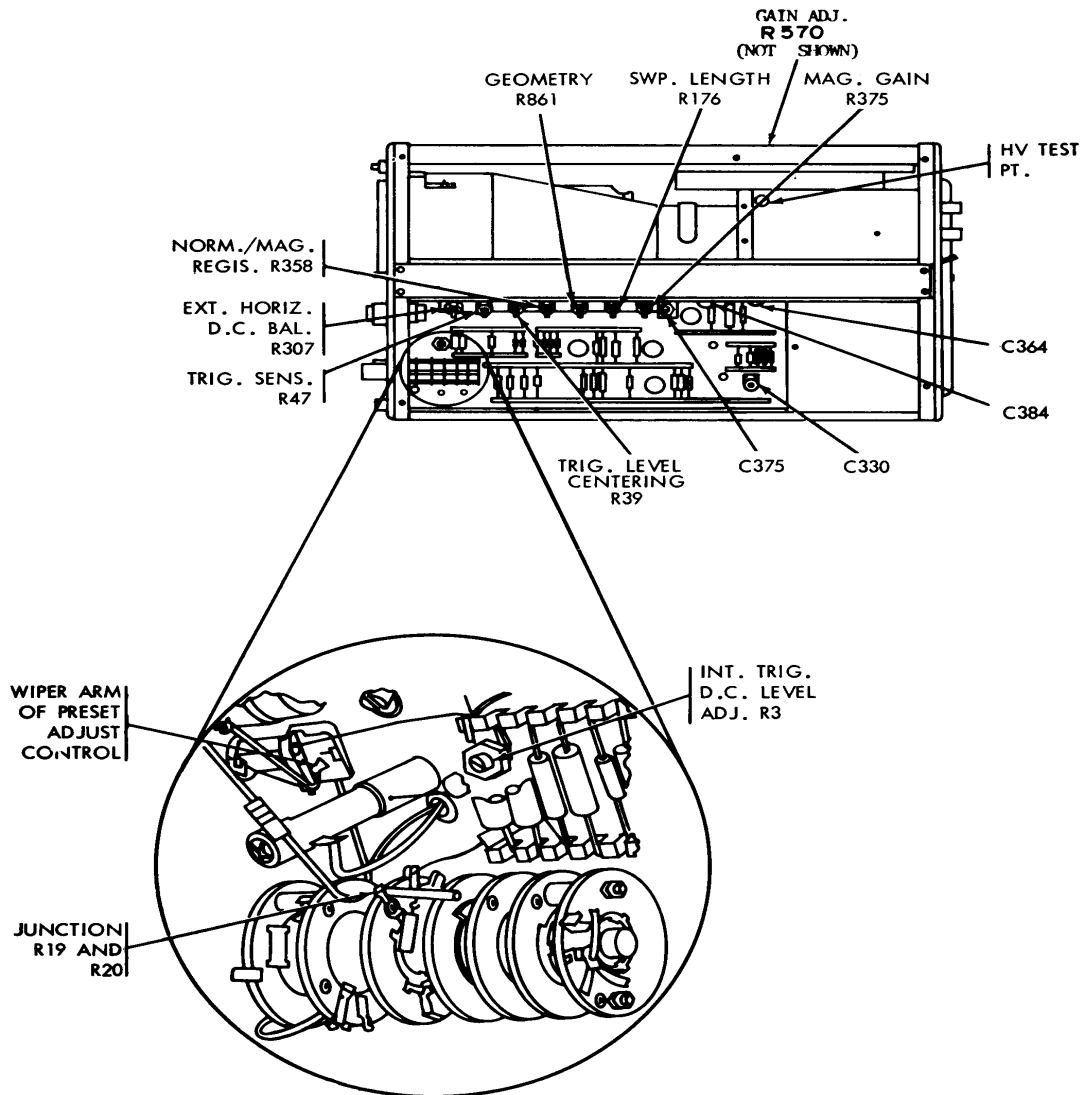

Figure 2. Oscilloscope - top view.
- (1) Connect TI **CAL OUT** to calibration adapter (A4) **EXT INPUT**, using cable (B5) and, if necessary, adapter (B2).
- (2) Set **AMPLITUDE CALIBRATOR** switch to **5 VOLTS**.
- (3) Adjust calibration adapter **VERTICAL POSITION** control until only the rising and falling portion of display are visible on TI crt. If vertical curvature of display is observed, perform **b** below.
b. Adjustments. Adjust **GEOMETRY R861** (fig. 2) for no vertical curvature of crt display.
(1) Adjust output of ac calibrator for 35.35 volts rms.
(2) Adjust **GAIN ADJ R570** (fig. 2, not shown) for 4 major divisions of vertical deflection on TI crt. (R)
- (1) Adjust **SWP LENGTH R176** (fig. 2) until sweep is approximately 10.5 centimeters long. (R)
- (2) Adjust **NORM. MAG. REGIS. R358** (fig. 2) until marker is centered behind center graticule line. (R)
- (2) Position TI controls as listed in (a) through (c) below:
- (3) Adjust calibration adapter **VARIABLE** control for 1 minor division of vertical deflection on TI crt.
(4) Adjust TI **STABILITY** control for stable waveform and center waveform vertically with **VERTICAL POSITION** control. Adjust **INTENSITY**, **FOCUS**, and **ASTIGMATISM** controls for best display.
(5) Connect junction of **R19** and **R20** (fig. 2) to chassis ground, using lead and two adapters (B6 and B1).
(6) While observing waveform, turn **TRIGGER SLOPE** switch from **+INT** to **-INT**. Waveform will invert and remain stable.
(7) If necessary, turn **TRIG. SENS.** control **R47** (fig. 2) fully counterclockwise and **TRIG. LEVEL CENTERING R39** (fig. 2) fully clockwise.
(8) From clockwise position, turn **STABILITY** control counterclockwise until waveform just disappears, then 2 or 3 degrees further.
(9) Turn **TRIG. LEVEL CENTERING R39** counterclockwise until waveform appears. If waveform does not reappear, turn **TRIG. SENS. R47** clockwise a few degrees and repeat the step.
(10) Turn TI **TRIGGER SLOPE** switch from **-INT** to **+INT** and back to **-INT**, while adjusting **TRIG. LEVEL CENTERING R39** and **TRIG. SENS. R47** to obtain a stable waveform, with respective polarity in both positions.
(11) Turn TI **TRIGGERING MODE** switch to **DC** and adjust calibration adapter **VARIABLE** control for 3 minor divisions of vertical deflection on TI crt.
(12) While observing TI crt, turn **TRIGGER SLOPE** switch from **-INT** to **+INT**. Waveform will invert and remain stable in both positions. If waveform will not invert and remain stable in both positions, adjust **INT. TRIG. D.C. LEVEL R3** (fig. 2) until stable waveform is obtained with respective polarity in both positions.
(13) Remove lead and adapter from junction of R19 and R20.
(14) Adjust **TRIGGERING LEVEL** control until waveform is stable. White dot on **TRIGGERING LEVEL** control will point to **0** (zero). If zero indication is not shown, loosen setscrew on **TRIGGERING LEVEL** control and turn knob until white dot points to **0** (zero).
(15) Tighten setscrew and remove connection from calibration adapter **EXT INPUT**.
(16) Position TI controls as listed in (a) through (d) below:
(17) Connect ac/dc voltmeter (A2) between wiper arm of TI **PRESET ADJUST** control (fig. 2) and chassis ground.
(18) Turn **PRESET ADJUST** control fully counterclockwise; then, turn clockwise until trace appears on TI crt. Record ac/dc voltmeter indication.
(19) Slowly turn **PRESET ADJUST** control clockwise until trace brightens. Record ac/dc voltmeter indication.
(20) Turn **PRESET ADJUST** control to obtain an indication on ac/dc voltmeter midway between indications recorded in (18) and (19) above.
(1) Adjust **C330** (fig. 2) for optimum square wave. (R)
(1) Set time-mark generator (A10) to .1 mS markers.
(2) Turn TI **HORIZONTAL DISPLAY** switch to **5X MAG** and align third marker with second graticule line. If 19th marker does not display between 7.76 and 8.24 centimeters from third marker. perform **b** below.